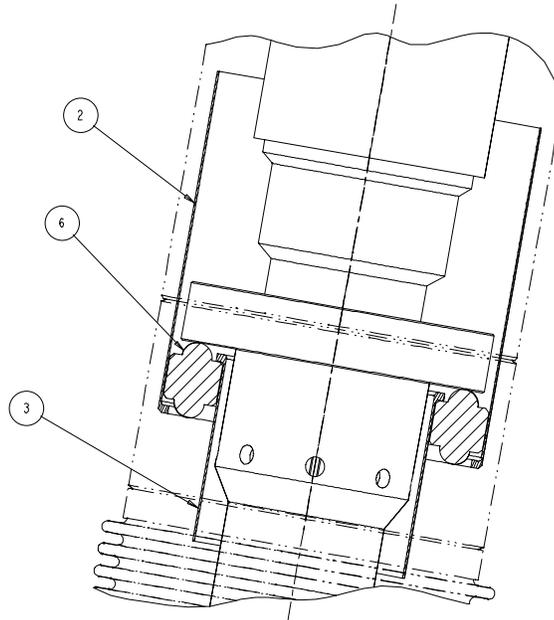

Figure 1.2 2 – Upper Insulator, 3 – Lower Insulator, 6 – PEEK Seal
- 1.2 Position the upper insulator in the chimney according to Figure 1.2.
- 1.3 Position the PEEK seal in the chimney according to Figure 1.2.
- 1.4 Position the lower insulator in the chimney according to Figure 1.2.